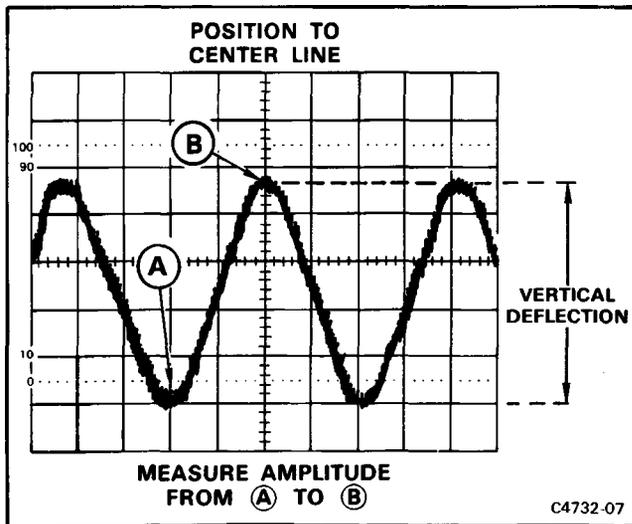

Figure 4-1. Peak-to-Peak waveform voltage.
6. Vertically position the display so that the negative peak of the waveform coincides with one of the horizontal graticule lines (see Figure 4-1, Point A).
7. Horizontally position the display so that one of the positive peaks coincides with the center vertical graticule line (see Figure 4-1, Point B).
8. Measure the vertical deflection from peak-to-peak (see Figure 4-1, Point A to Point B).
**EXAMPLE:** The measured peak-to-peak vertical deflection is 4.6 divisions (see Figure 4-1) using a 10X attenuator probe with the VOLTS/DIV switch set to 5 V (at 10X PROBE setting).